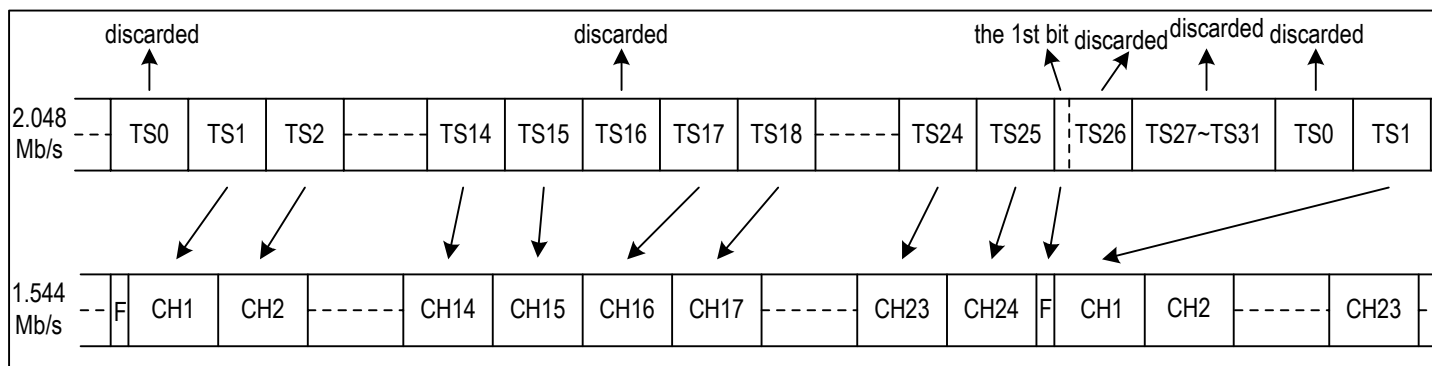

Figure 24. E1 To T1/J1 Format Mapping - G.802 Mode
1. T1/J1 Mode E1 Rate per G.802 (refer to Figure 24): TS1 to TS15 of Frame N on the system side are converted into Channel 1 to Channel